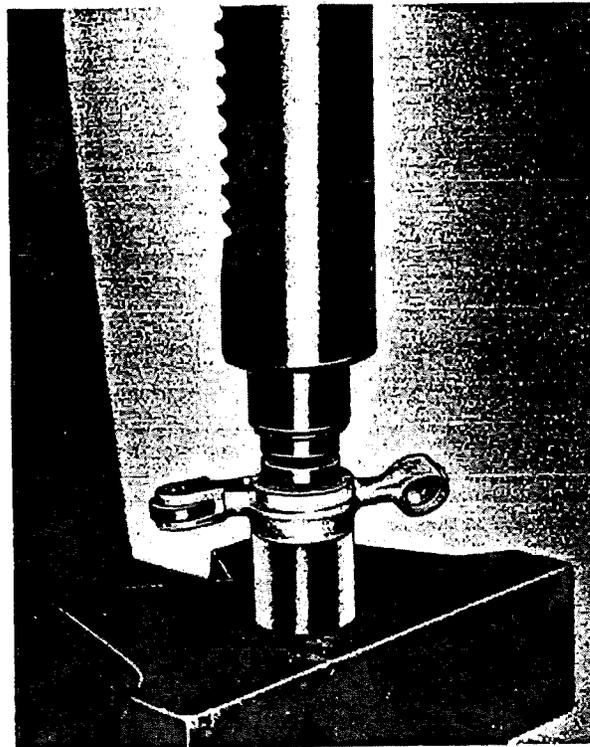

Figure 23 - Installing Rocker Arm Bearing
2. Insert Drift (Tool No. T-6037) in place and press bearing out using arbor press. Refer to Figure 23.
b. Assembly.- (1) The following parts will be installed as specified.